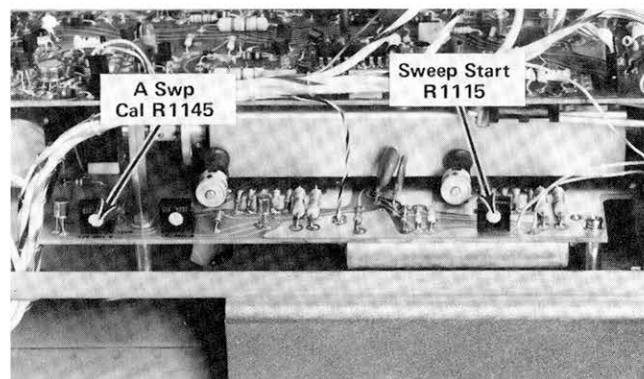

Fig. 5-29. Location of Sweep Start and A Sweep Cal adjustments.
c. ADJUST—Sweep Start adjustment, R1115, (see Fig. 5-29) so the intensified portion of the sweep begins at the start of the second time marker.
f. ADJUST—A Sweep Calibration adjustment, R1145, (see Fig. 5-29) so the intensified portion of the sweep begins at the start of the tenth time marker.